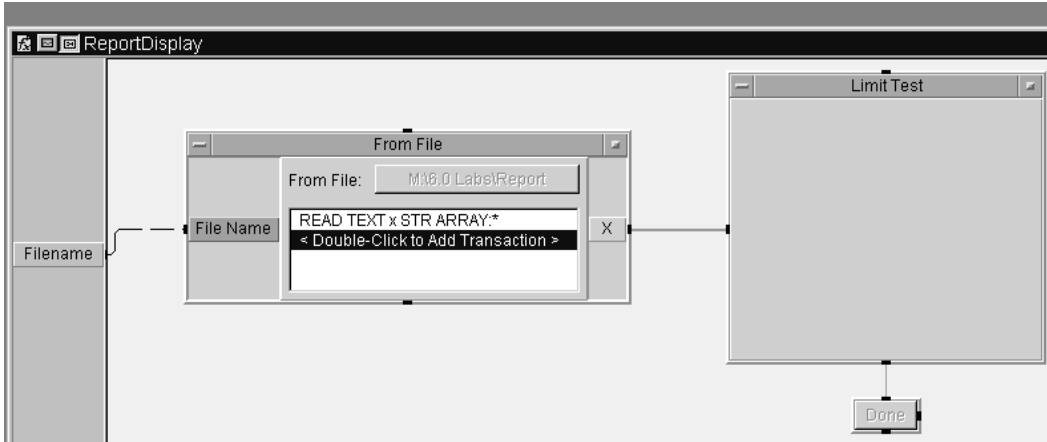

Figure 14.10. ReportDisplay revisions
23. Modify your ReportDisplay Function as shown in Figure 14.10 – both the instructions in FromFile and the additional terminal (FileName) and its connection.